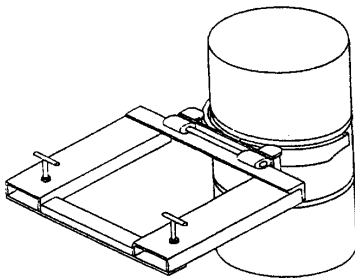

Figure 3
- (6) Move unit forward onto drum, lowering jaws slowly as you move. Jaws will open and close around drum. (Figure 3)